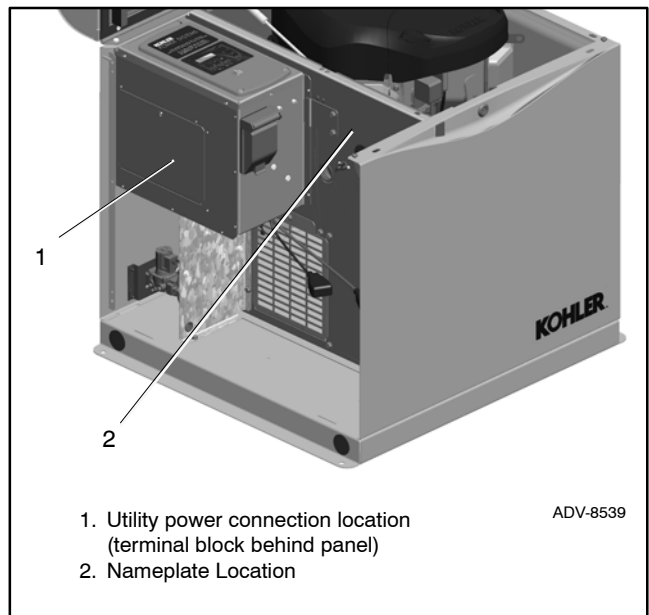

Figure 3-7 Utility Power Connection and Nameplate Locations
3. Disconnect utility power to the generator set by opening the circuit breaker in the distribution panel. Use a voltmeter to verify that utility power has been disconnected. See Figure 3-7 for the utility power connection location.
- Some of the required information can be found on the generator set nameplate. See Figure 3-7 for the nameplate location.